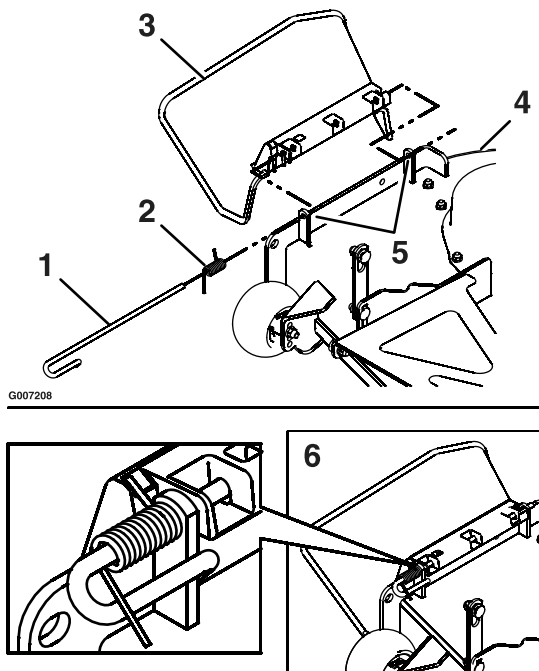

Figure 46
5. Make sure that the spring and rod are installed so that the rod is retained from sliding out by the front bracket and the spring holds the discharge deflector in the down position. Refer to (Figure 46) for proper orientation.
1. Locate items shown in Figure 46.
4. Orient the spring so that the short leg points towards the discharge deflector and the longer leg points towards the deck as shown in Figure 46. Place spring on rod and slide rod, straight end,